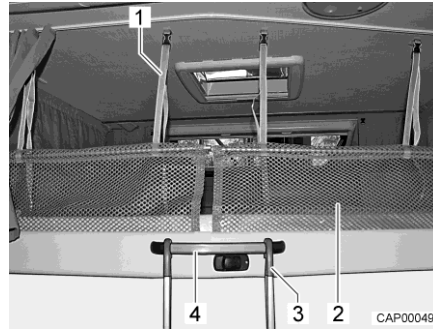

Fig. 73 Access ladder and safety net
*Attaching:* ■ Hook the access ladder (Fig. 73,3) to the pull-down bed by attaching the two hooks to the curved handle (Fig. 73,4).
**Safety net** The safety nets (Fig. 73,2) with the retaining straps are stored under the mattress. Only use the safety nets if persons are already in the pull-down bed.
*Setting up:* ■ Fasten the retaining straps (Fig. 73,1) to the holders on the ceiling.